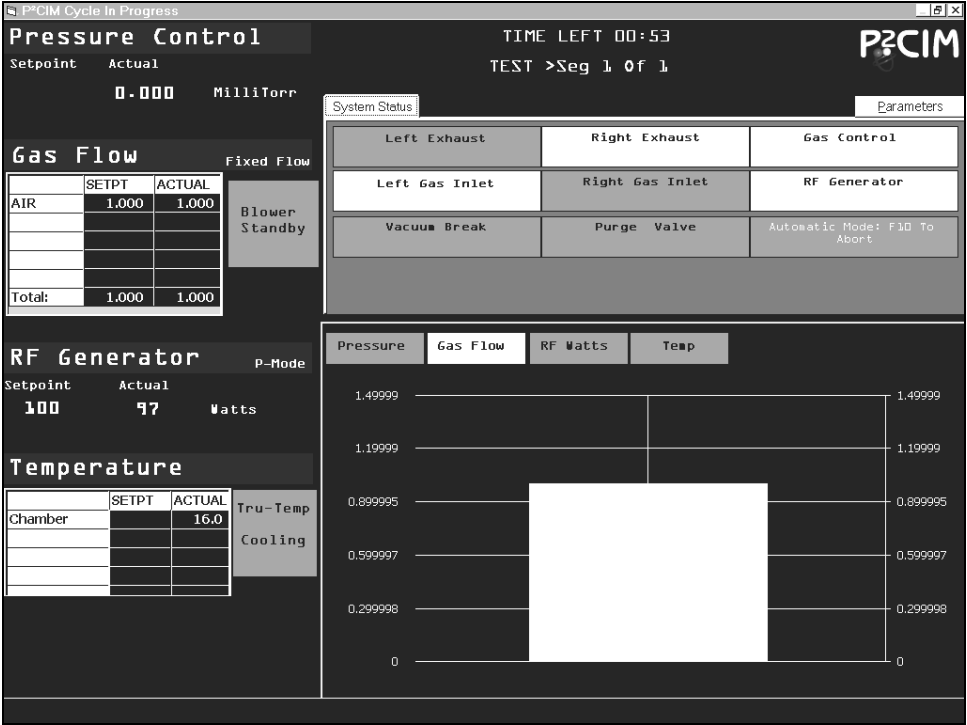

Figure 5-6 System Operation Display: Automatic Mode
NOTE: Pressing **<ENTER>** while the Start Cycle button is highlighted causes the system to automatically begin the run using the operating parameters from the chosen part file. No other manual interaction is required until the system has completed the processing cycle and the product is unloaded from the chamber. The system prints out process status every sixty (60) seconds (default). For details on changing the cycle length for this report, see: *5.7.2 Machine Configuration*. During the run the monitor displays a full color diagram which indicates the system’s operational status (Figure 5-6).